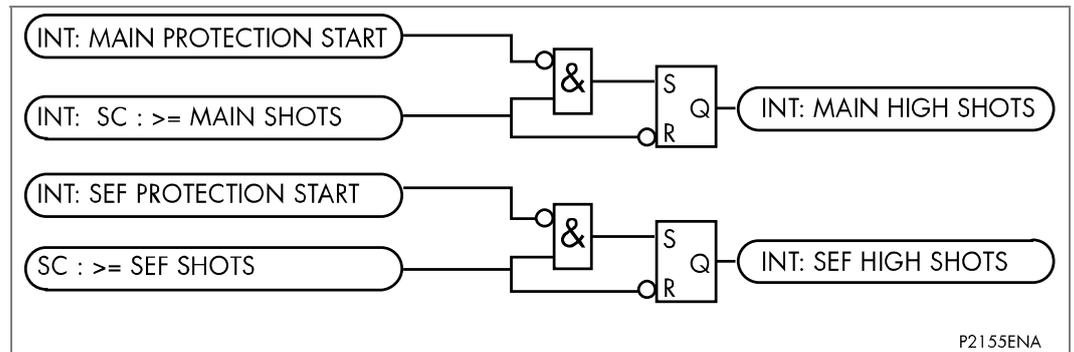

Figure 61 - Shots exceeded logic
- The number of main protection and SEF shots have not been reached (“**Man High Shots**” and SEF “**High Shots**” Signals see Figure 61)